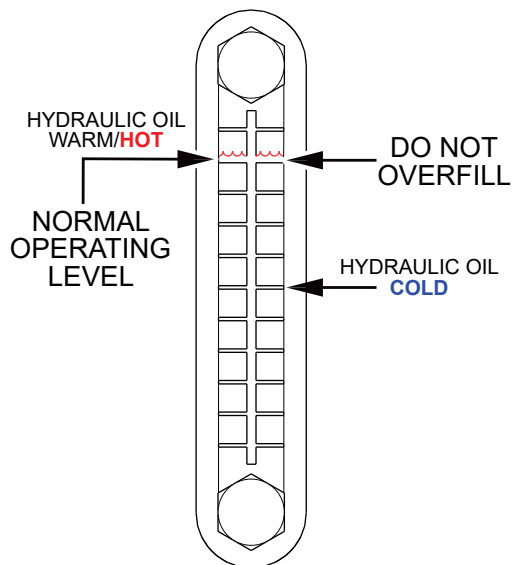

Figure 10. Hydraulic Sight Glass
1. Visually read the hydraulic sight glass (Figure 10) to see if the hydraulic oil level is low.